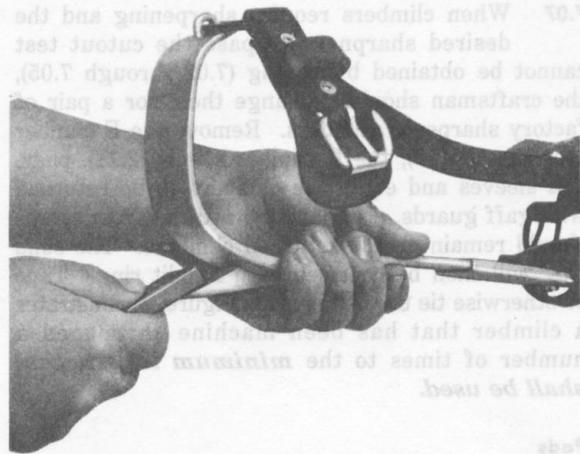

Fig. 19—Honing Inner Surface
7.04 Hone the inner surface of the gaff by starting the stroke near the leg iron and continue over rounded curve of tip as indicated in Fig. 19. Stop the honing stroke before the stone slides off the end of the gaff to prevent dulling the tip. About 20 to 25 strokes of the honing stone should be enough. **Do not attempt to reshape the tip of the gaff.**